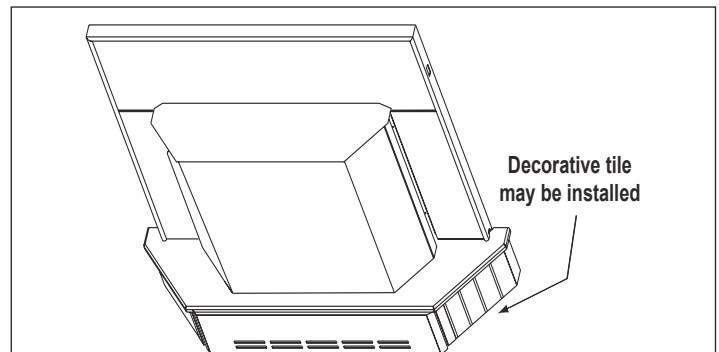

Figure 20.3
3. Measure front and side trims to required height to cover scissors and mark pieces for cutting. Cut excess material from **top** of trims edge, not bottom. This edge will be sharp; wear gloves to prevent injury to your hands. **Figure 20.3.**